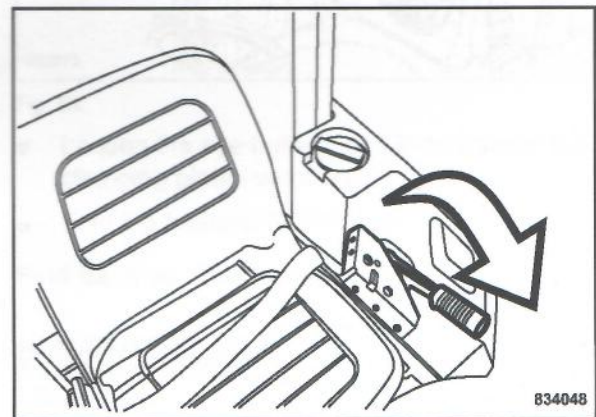

Fig. 47
- Release the parking brake (Fig. 47).